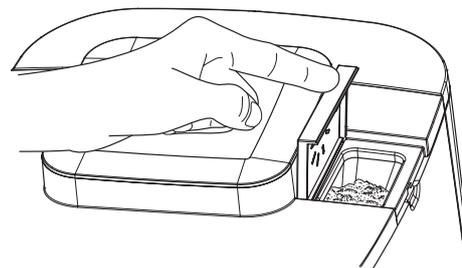

fig. 7: Putting ground coffee into the powder chamber
4. Open the powder chamber and put in the required amount of ground coffee. (fig. 7)